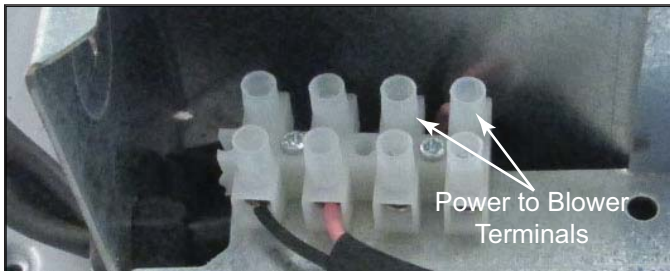

Figure 4-5. Terminal Block
- Measure voltage between terminal posts on the Terminal Block inside Electrical Box. Voltage should be 115 VAC. (See Figure 4-5)